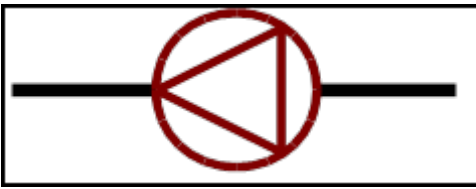

Figure 5 - A component in the loop
4. **Identify the components in the system.** While identifying the main components in the loop, it should be noted that this loop has a primary/secondary pumping setup, and that there is a common pipe that allows for flow imbalance. (Note: The *PlantLoop* object in EnergyPlus has a provision for the input of a common pipe. The user only has to specify the existence of a common pipe in the loop, and the program calculates its position in the loop). The primary pump is shown below is shown in Figure 5.